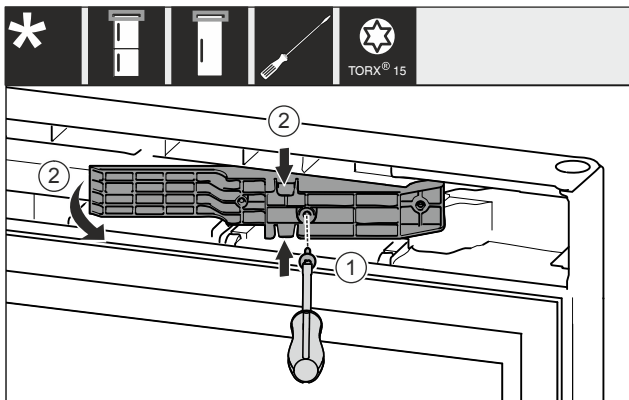

Fig. 10 *
- ▶ Loosen the screws with a T15 screwdriver. Fig. 10 (1)*
- ▶ Pull out the adaptor. Fig. 10 (2)*